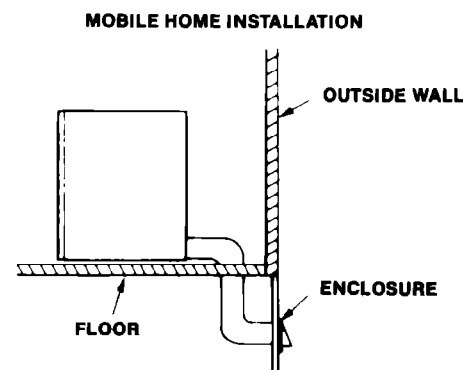

Figure 7
15. For mobile home installations the dryer **must** be exhausted to the outside. If the dryer is exhausted through the floor and the area under the mobile home is enclosed, it is recommended that the exhaust system terminate outside the enclosure. Extension beyond the enclosure will prevent the accumulation of lint and moisture under the mobile home. See Figure 7.